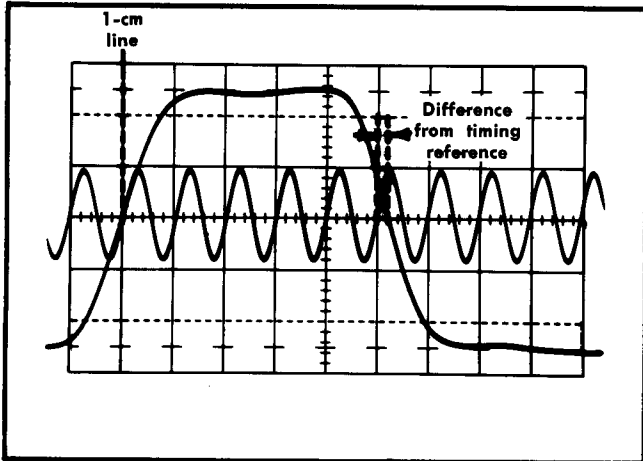

Fig. 6-11. Typical test oscilloscope display for checking remote width.
f. Center the sine-wave display and the Type R116 pulse on the crt screen. Increase the marker amplitude and readjust the triggering if necessary (see Fig. 6-11).